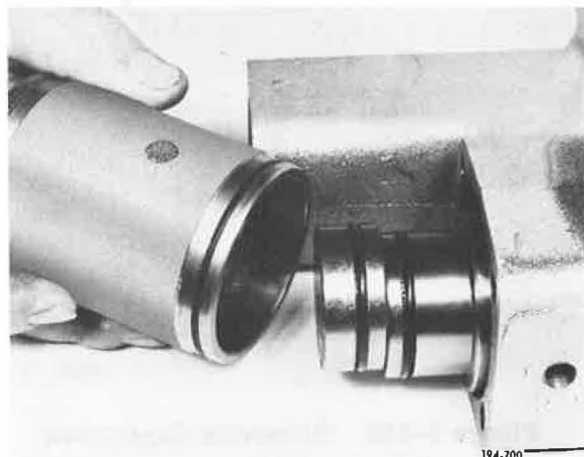

Figure 5-359. Removing Shift Cylinder
12. Remove Lo/Direct shift cylinder from air shift cover. See Figure 5-359.